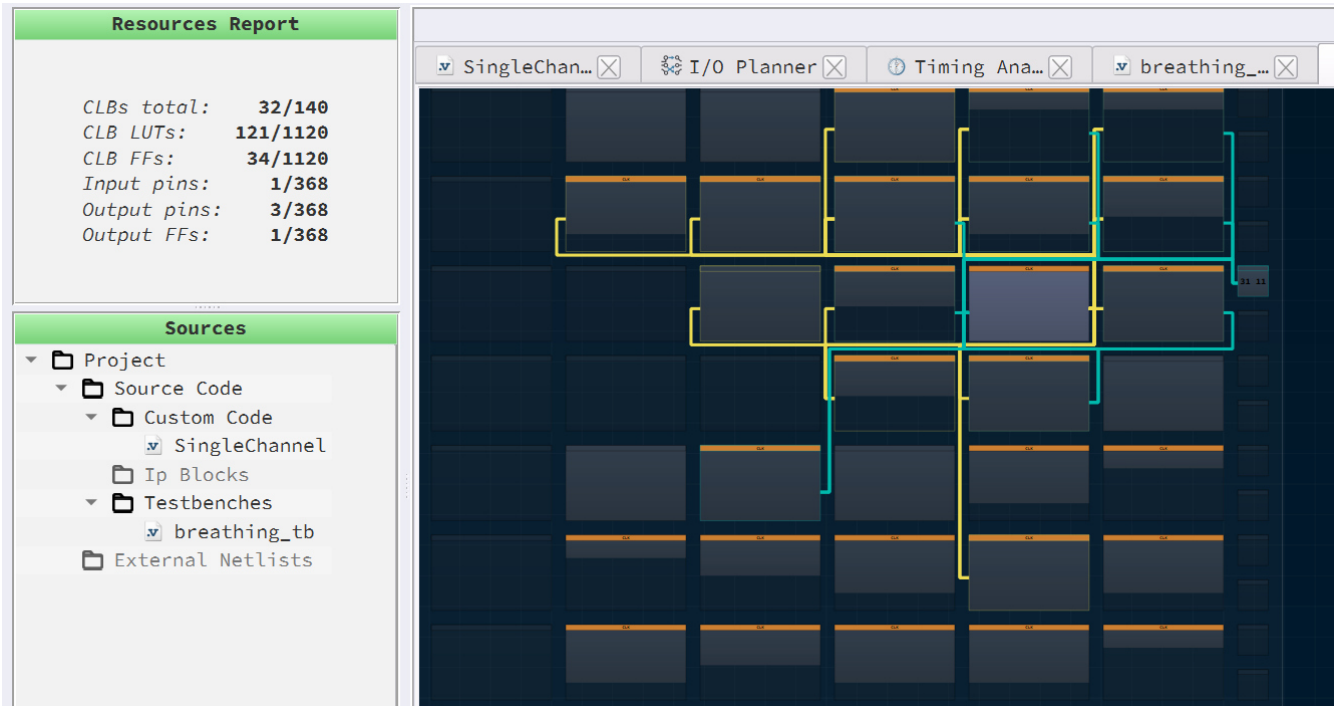

Figure 3: Single Channel Breathing CLB Utilization
The Floor planner tab in the FPGA Editor shows the placement of CLBs and FFs (Figure 3). The resource utilization is shown in the top left corner.
7. Now click on the Floorplan tab and see the CLB utilization (Figure 3). Press the Ctrl and the mouse wheel to zoom-in or the icons on the bottom to zoom in/out. Confirm that the IOs selected in the IO Planner are shown in the floorplan.